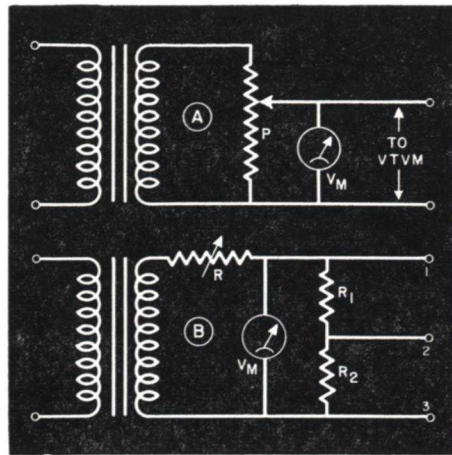

FIG. 26. Two methods of getting an a.c. voltage for calibration purposes.
► When an a.c. vacuum tube volt-meter can be calibrated on 60 cycles, the circuits shown in Fig. 26 can be used. The accuracy depends on the standard meter—if V_M is a copper-oxide type the accuracy may only be about 5% unless the meter has been hand-calibrated or checked against a standard.